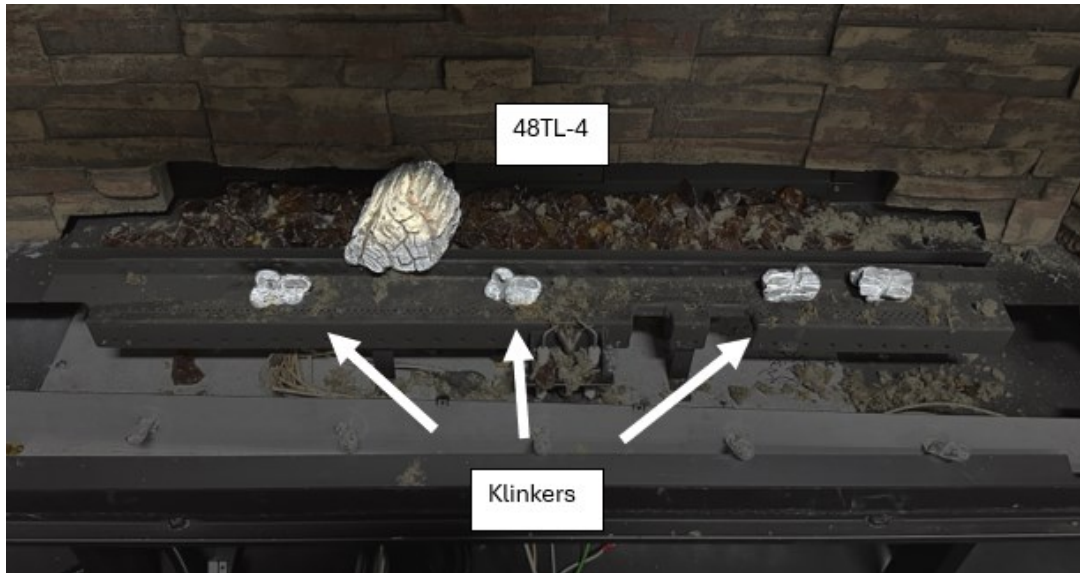

Figure 3 - Log Placement 1
2. Install part of the crushed media over the rear ember bed media tray. Place log 48TL-4 as shown in Figure 3. Install (4) small klinkers on the bottom burner pan. Do not block any burner porting.